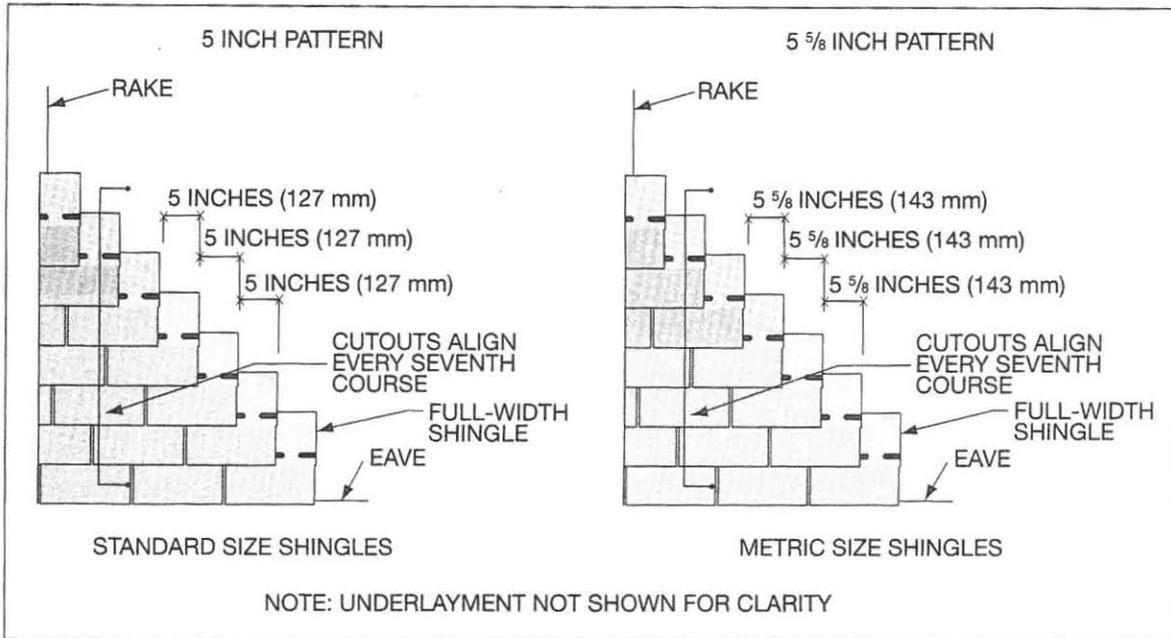

Figure 10:
- 5- and 5 $\frac{1}{2}$ -inch methods — A more random visual affect of a finished roof system can be achieved by offsetting cutouts in neighboring courses. For standard-sized shingles, the offset pattern is usually accomplished by removing approximately 5 inches (125 mm) from each consecutive course (after the first full-width shingle in the first course). For metric-sized shingles, this offset pattern is achieved by offsetting each consecutive course 143 mm (5 $\frac{5}{8}$  inches) as shown in Figure 10.